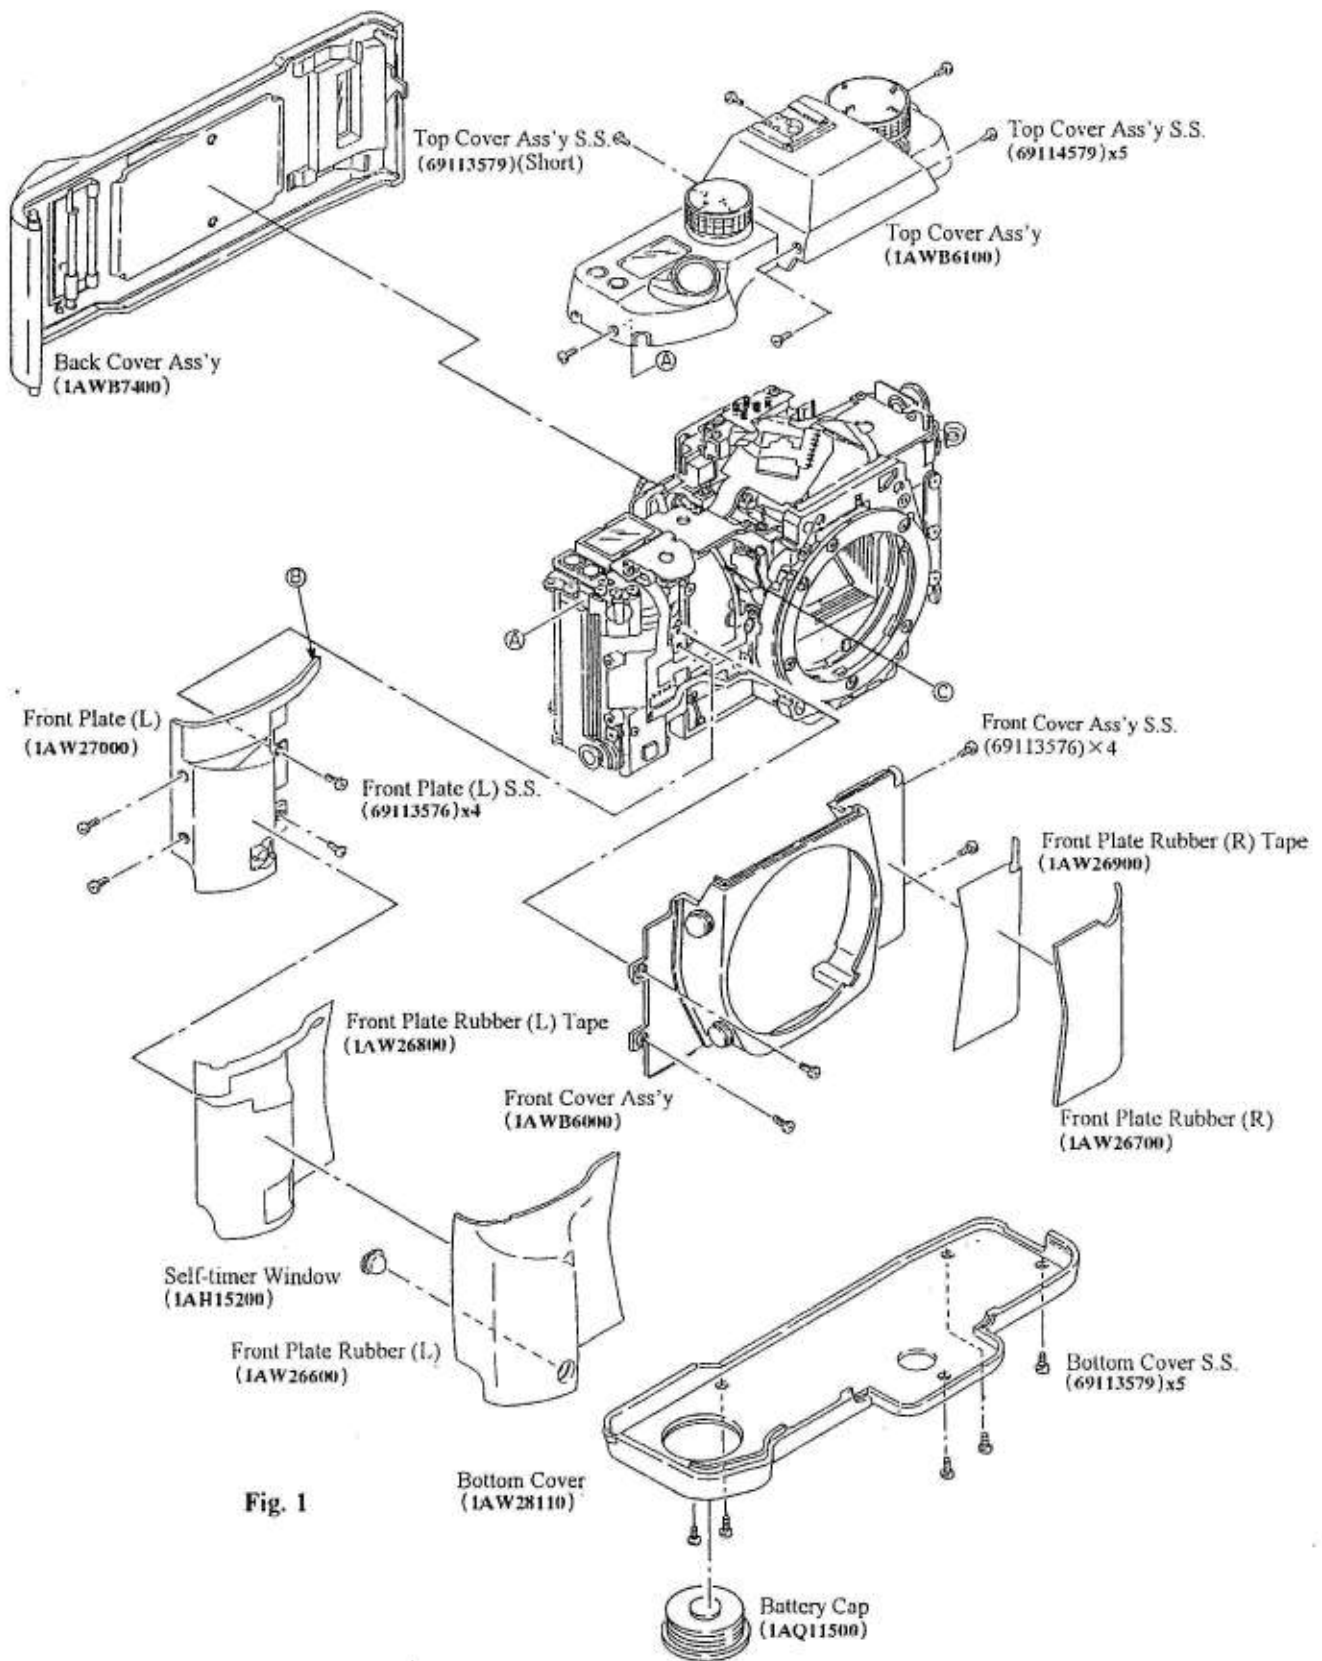

Fig. 1
(See Fig. 1)
- b) Install the Front Plate (L) Ass'y so that the \oplus portion of the Front Plate (L) Ass'y presses the \odot portion of the Aperture Control FPC. (See Fig. 1).